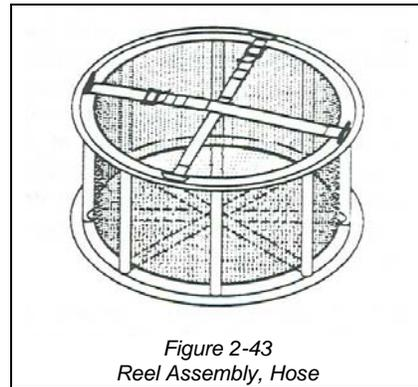

Figure 2-43
2.4.9 Lay out the necessary fittings and hose to connect the field sinks. Figure 2-43 is a typical configuration. The hose (item d) is optional. You can omit it, or use any length hose you need. There are two possible connections to the field sink: